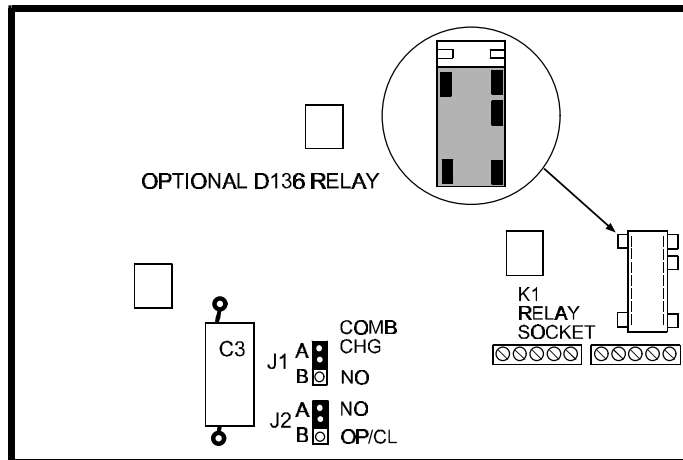

Figure 2: D268 Module
You need to install a jumper plug on J1 in the "A" (COMB CHG) position (see Figure 2) to enable the passcode change feature. To prevent further passcode changes, place the jumper plug in the "B" (NO) position.
2. Discharge the large capacitor (C3) indicated in Figure 2, by momentarily shorting its leads together with a jumper wire.
When using a D8112, supervised sub-control zone codes must be programmed with a 3 in the first digit position and a 2 in the second digit position. The 3 2 __ code is a *Special Zone Code* used by the D8112 to identify a supervised sub-control zone. Install jumper plug J2 in the "B" OP/CL position on the D268 Module (see Figure 2) to enable opening and closing reports from the zone controlled by the D268.
An optional alarm device, such as a bell, can be installed to annunciate alarms associated with the D268/D269. Figure 4 shows the wiring of the optional device from the D268 Module to the panel. A Radionics model D136 Relay must be installed in the K1 socket of the D268 Module (see Figure 2) to operate this optional device. The socket is designed so the relay can be inserted in either the top or bottom positions. Insert the relay with the three legs facing away from C3. If a fault is detected on a D268 loop, the on board form C relay is activated. The relay is latched until you enter the passcode. See the appropriate *Operation and Installation Manual* for further details on the programming and operation of the Alarm Output.
The D268 Module contains two movable jumpers. The location of these jumpers is shown in Figure 2. Jumper J1 is used to enable and disable the passcode change function from a D269 Keypad. With the jumper plug installed in the "A" (COMB CHG) position, you can change the passcode. If the jumper plug is installed in the "B" (NO) position, you cannot change the passcode.